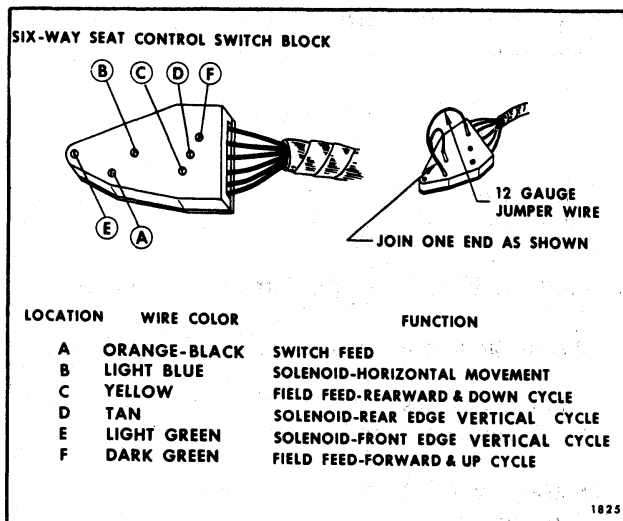

Fig. 10-23-Six-Way Seat Switch Block in Seat Side Panel
NOTE: In the following operations which specify the seat control switch to be actuated, a switch that has been checked for proper operation may be connected to the switch block. If a switch is not available, a three-way jumper wire can be made to perform the switch function. The jumper wire and the switch locations to be connected to obtain a specific movement of the seat are shown in Figures 10-23 and 10-24. If a jumper wire is used, letter the locations on the switch block as indicated in the illustration. Details outlining the making and use of the jumper wire follow the checking procedure.
1. On bodies with switch in seat side panel (Fig. 10-23) proceed as follows: